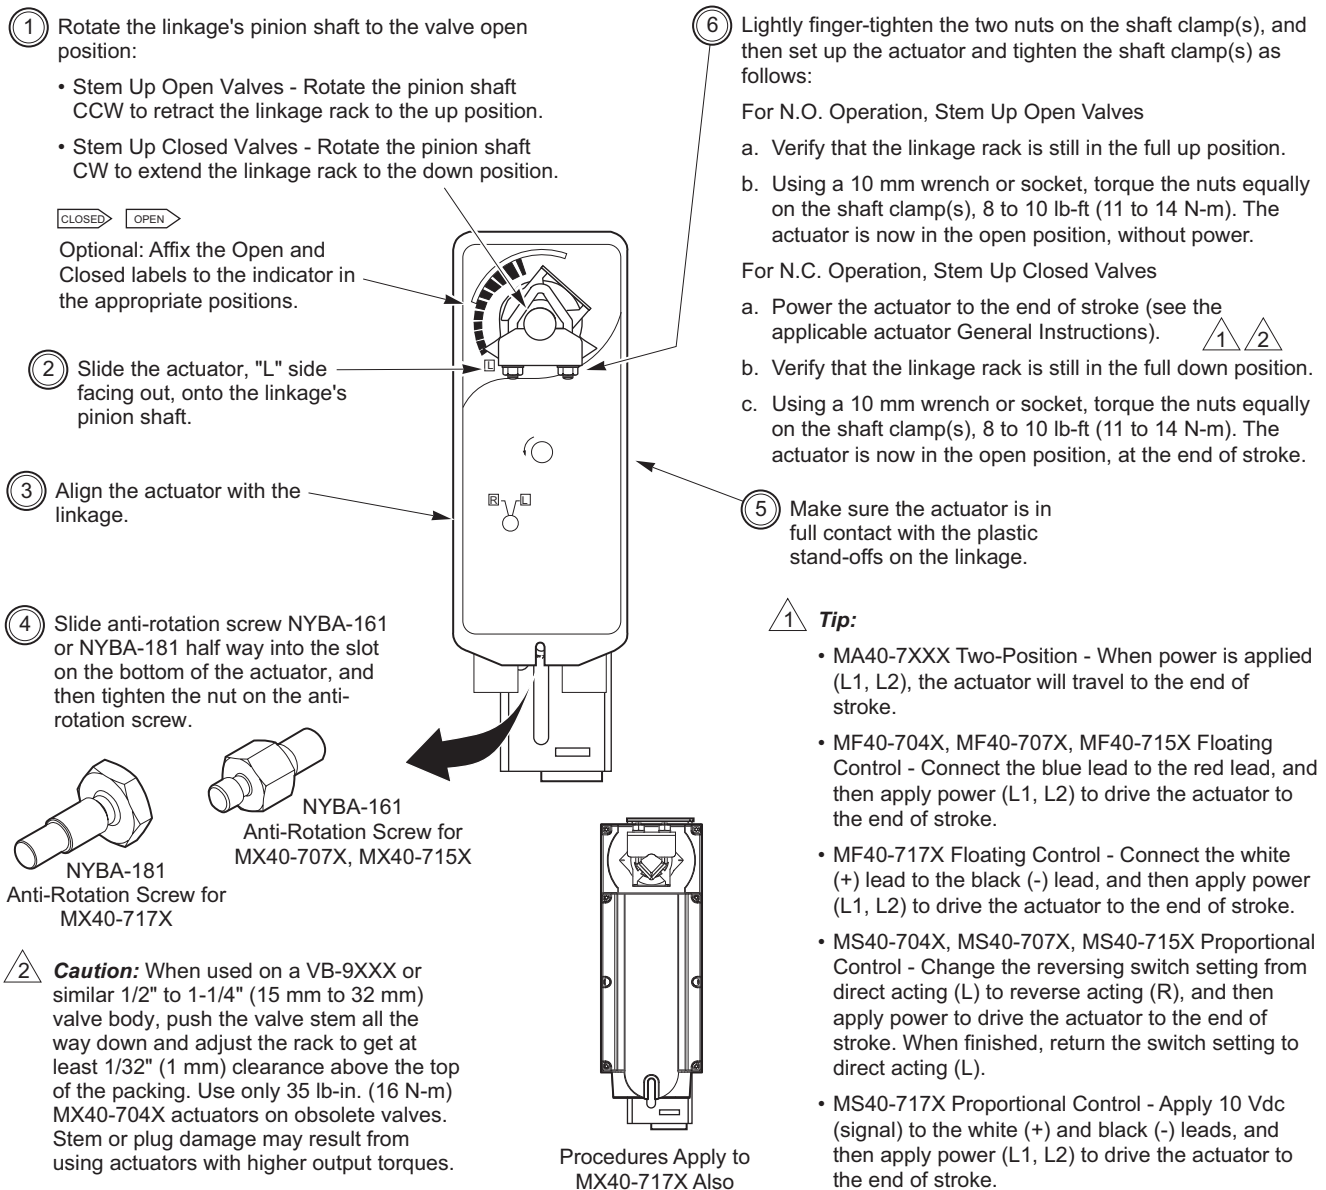

Figure-3 Mounting Spring-Return Actuator on 2-Way Valve and Setting Up Actuator/Linkage/Valve Assembly.
- a. Install the actuator onto the linkage and 2-way valve, and set up the assembly, according to Figure-3.